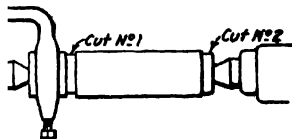

Fig. 14-10.
**Alignment of Centers.** With the turning tool take a cut (No. 1, Fig. 14-10) quite near the dog just deep enough to get under the scale and about  $\frac{1}{4}$  in. wide. *Without changing the position of the cross feed*, move the dead center away from the work, swing the piece clear from the turning tool, and run2 the carriage back to take cut No. 2. Put the work back on the centers and take cut No. 2. Caliper both cuts. If they are of the same diameter the lathe is turning straight because the two cuts indicate exactly the same effect as if one cut had been made the whole length to the dog. If the two cuts do not measure alike and cut No. 2 is the larger diameter, the tailstock slide should be moved toward the operator. If cut No. 2 is the smaller the tailstock should be moved away from the operator.